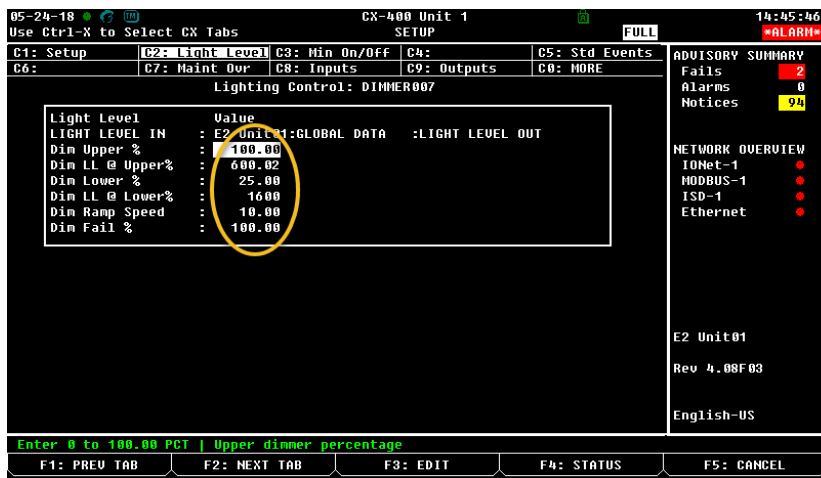

Figure 3 - Light Level Screen
- Set the values encircled in Figure 3 - Light Level Screen based on the desired lighting operation.